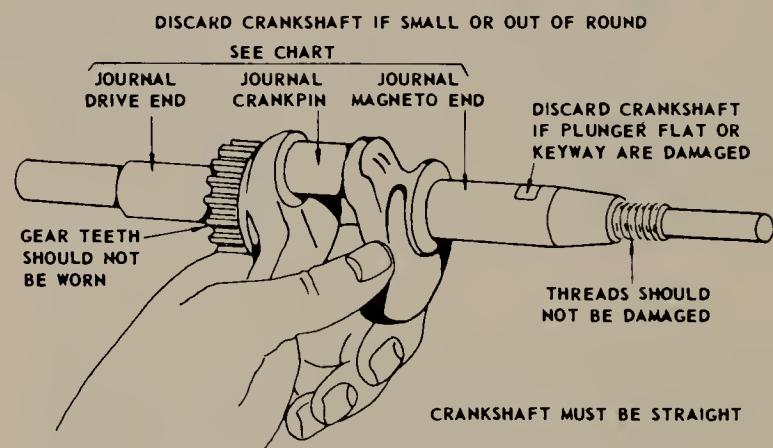
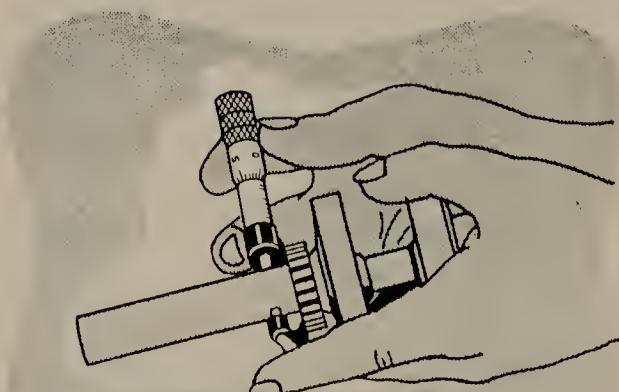

FIGURE 16.35 Crankshaft check points. (*Briggs and Stratton Corporation.*)
FIGURE 16.36 Using a micrometer to measure crankshaft journal. (*Clin-ton Engines Corporation.*)
16.6 Crankshaft Service. Inspect the crankshaft crankpin and main-bearing journals for signs of roughness. Figure 16.35 shows various checks to be made on a crankshaft. The crankpin and journals should be checked with a micrometer, as shown in Fig. 16.36. Checks should be made all the way around each journal and the crankpin, and also from one end to the other. If a journal or the crankpin is found to be out of round more than 0.001 in., or if it is tapered, the crankshaft should be discarded. It is possible to grind the journals and crankpin to smaller diameters and use undersized bearings, but this is a delicate operation that requires special equipment.